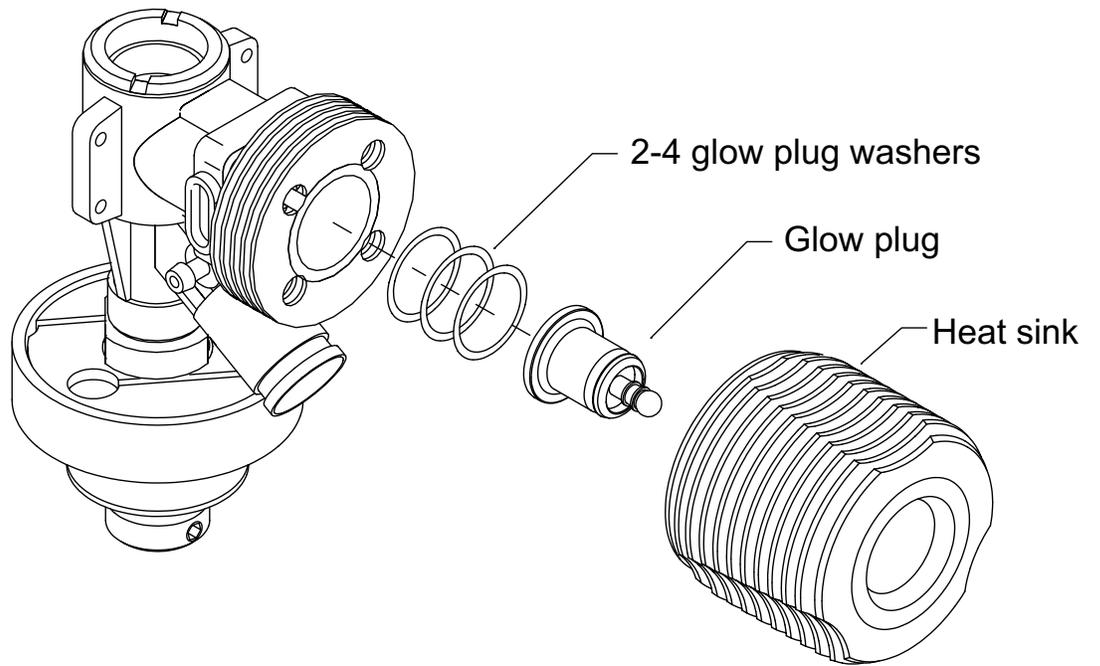

Figure 11-3.
- 4. If you intend to use 15% nitro fuel, place two thin copper glow plug washers into the cylinder as shown in Fig. 11-3. If you intend to use 25% nitro fuel, use four washers. Be careful, they are easily bent or crimped if not fully seated when you tighten the heat sink. Place a *SpiraLite Speed* or *Freedom XL* glow plug on top of the washers, and screw the heat sink into the cylinder. Grip the heat sink with a cloth while tightening it.